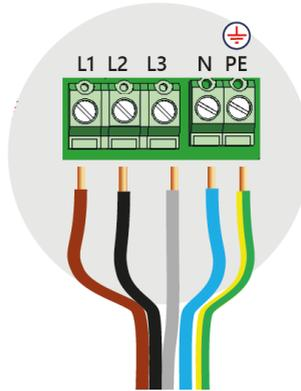

Figure 18: Connecting wires to the terminal block
8. Connect the wires of the AC cable according to the labels on the AC terminal block of the inverter (see *Figure 18*). Tighten the screws of the Terminal Blocks with a torque of 1.2-1.5 N\*m.